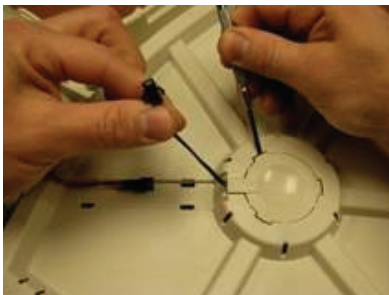

Figure 1
2. **Remove the Clicker:** there are three tabs on the Clicker that hold it in place. Using a flat-head screwdriver, carefully press in and lift up on each tab while gently lifting up on the wire (Figure 1). After the 3rd tab is unhooked, lift out the Clicker, leaving the Spring down in the hole (Figures 2 & 3). Continued next page...